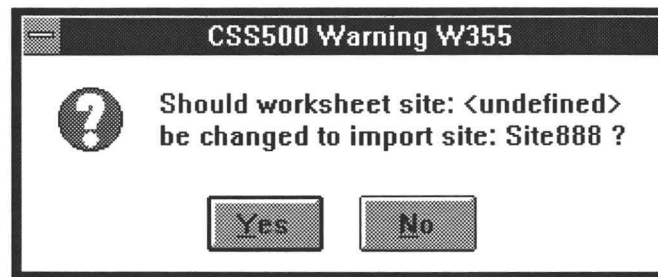

Figure 6-31.
Figure 6-30. A warning that the Site name does not match the current Site name in the worksheet. Choose Yes to continue or No to abort the Import process. If Yes is chosen, another dialog box similar to Figure 6-31 appears.
9. Choose the Yes command button to continue importing the results. The Warning shown in Figure 6-31 then appears.